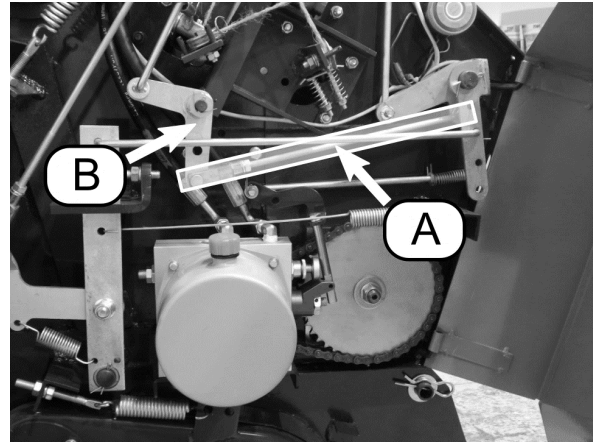

Figure 30 Right side of baler
- 2) The inner rod (Figure 30, A) can also be moved to a different hole in the boomerang-shaped back adjustment plate (B), but please note that normally this adjustment is not necessary. Changing the position on the boomerang-shaped plate will cause a much larger change in bale density than the front plate. Use the top hole for lighter bales and the bottom hole for heavier bales. After making this adjustment, additional fine-tuning can be done by moving the outer rod mentioned in option 1.